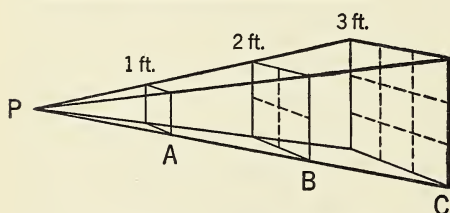

FIG. 10-10. The farther diverging rays of light travel, the larger the area they must illuminate. The intensity of light at C is only one-ninth that at A.
b) *How far distant the observer is from that light source.* The light spreads out in all directions from the light source. [See Fig. 10-10.] The amount of light that one receives is